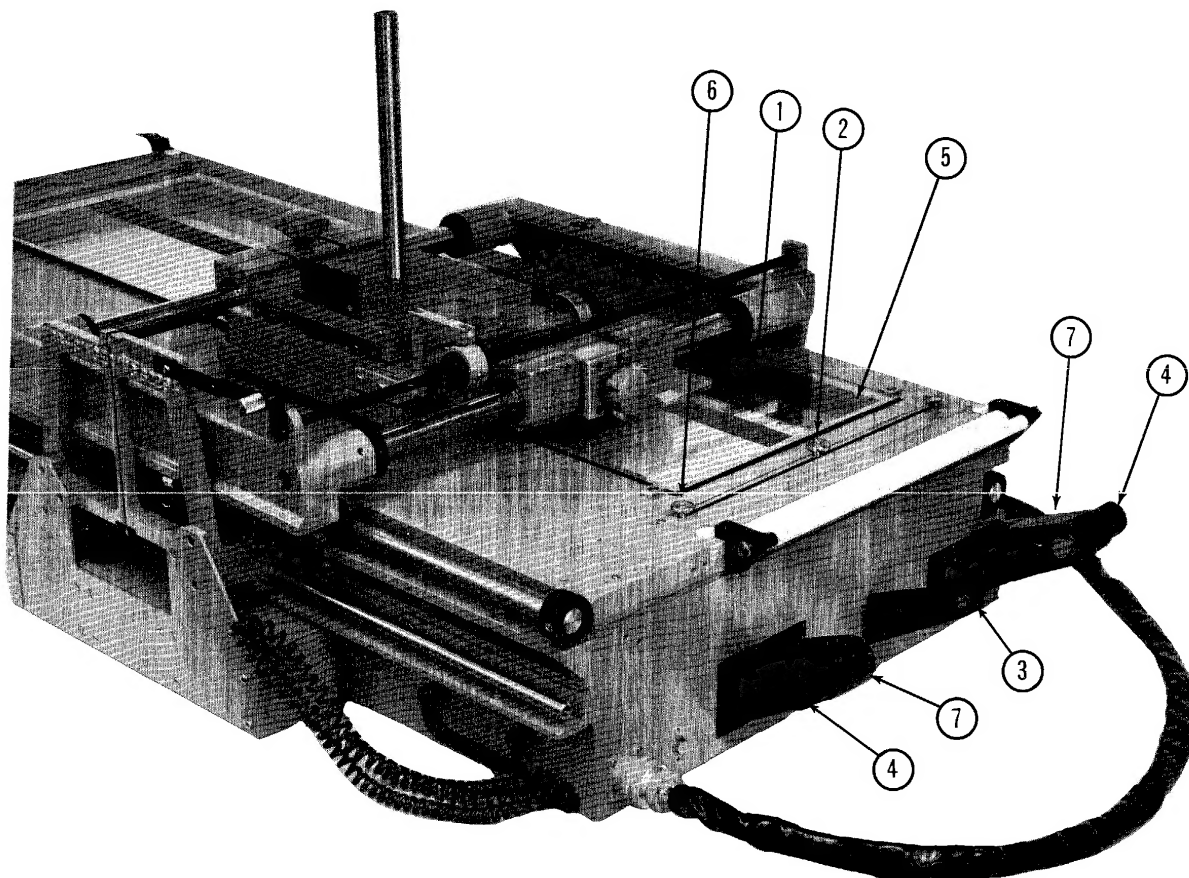

FIG 5 LIGHT TABLE - DETAILS
3. Position the center shade (#1 Figure 5) in the center of the viewing area by first loosening the thumb screw (#2 Figure 5) at each end of the shade and then sliding the shade to the correct position. Tighten the thumb screws.
4. Install center film arms (#3 Figure 5).
5. The film spools may now be loaded by retracting the spring loaded spool holders (#4 Figure 5).
2. Turn the top film arm transport plate handle (#7 Figure 1) until the inner edge of the film arm (#5 Figure 5) is in line with the 9.5" film marker (#7 Figure 3). Lock the brake (#8 Figure 1).
3. Position the center shade (#1 Figure 1) at the extreme upper edge of the viewing area by loosening the thumb screws (#2 Figure 5) at each end of the shade and sliding the shade to the correct position.
4. Remove the center film arms (#3 Figure 5), if installed.
The Light Table is equipped with shades. The function of the shades is to mask out the area of light source not being used. When film is viewed which does not cover the entire viewing surface, the shades (#5 Figure 5) may be drawn by loosening the thumb screws (#6 Figure 5) and sliding the shades to the desired position.
When two rolls of film are viewed, the center strip between the two rolls of film may be shaded by using the center shade (#1 Figure 5). This can be done by loosening the thumb screws (#2 Figure 5) and sliding the shade to the desired position and then tightening the thumb screws.